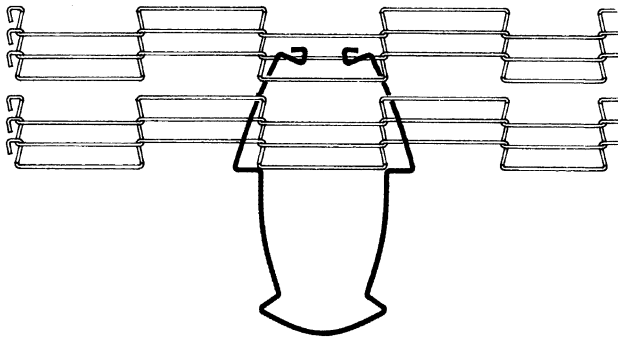

Figure 88: Inserting the Splicing Link
4. When bending the splicing strand, try not to bend the "Z" bend area of the strand, i.e., bend the straight portions of the strand. Refer to Figure 88.